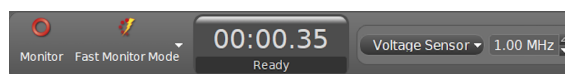

Figure 4: Sampling Rate
6. Set the **Mode** to Fast Monitor Mode. Shown in Figure 4.
- Y-axis (Right side) = **Select Measurement** of Output Voltage, Ch 01 (V)
8. Set the **Sampling Rate** to the maximum allowed to increase the number of points as shown in Figure 4.